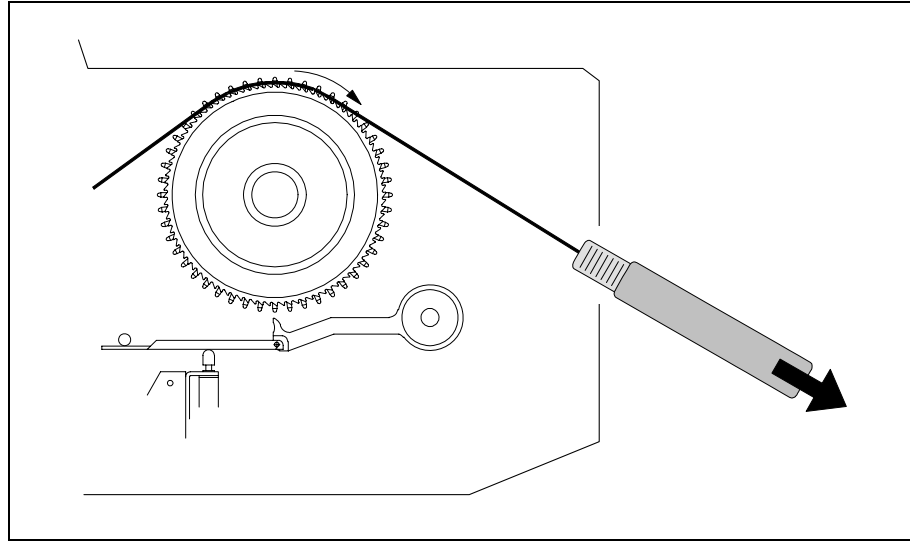

Figure 13-16. Feeder wheel friction measurement.
1. Measure the feeder wheel friction by putting a piece of component tape on the feeder wheels and pull the tape using a dynamometer (see Figure 13-16). The force required to rotate each wheel shall be 1 - 5N.